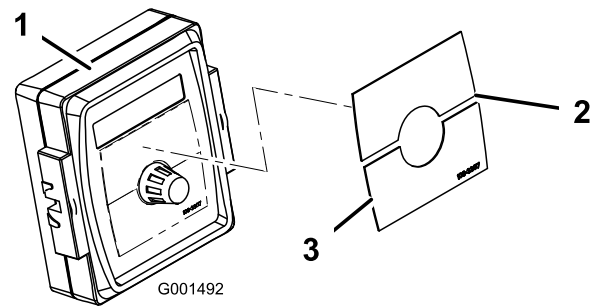

Figure 4
- Install the Spray Pro Decal to the monitor (Figure 4).